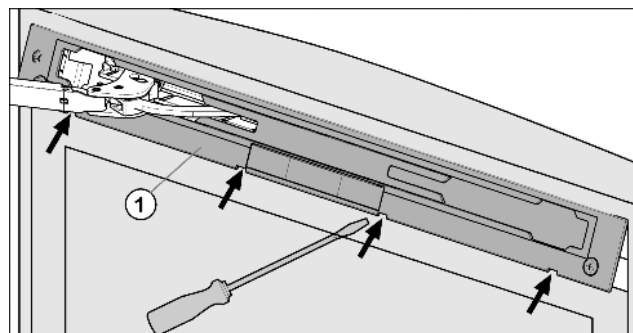

Fig. 4
- ▶ Disengage and remove the faceplate Fig. 4 (1) using a flat-blade screwdriver.